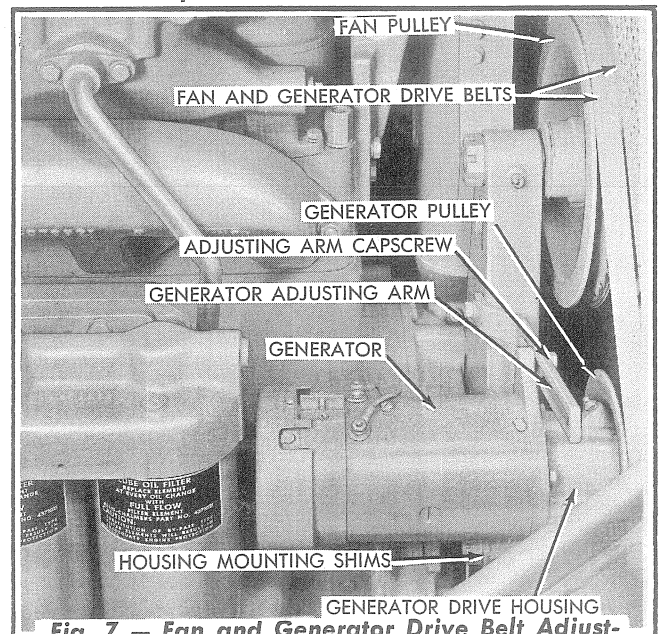

Fig. 7 — Fan and Generator Drive Belt Adjustment Location (Tractors Serial No. 4001 and Above Shown — Tractors Prior to Serial No. 4001 Similar)
1. Removal of Generator (Fig. 7)
1. Removal of Generator Drive (Fig. 7)
2. Installation of Generator Drive (Fig. 7)
- a. Place the generator drive and generator, as an assembly, in position on the fan mounting bracket and install a sufficient number of housing mounting shims in position as shown in Fig. 7 to eliminate all end play between the generator drive housing and the fan mounting bracket. Install the generator drive housing capscrew and the